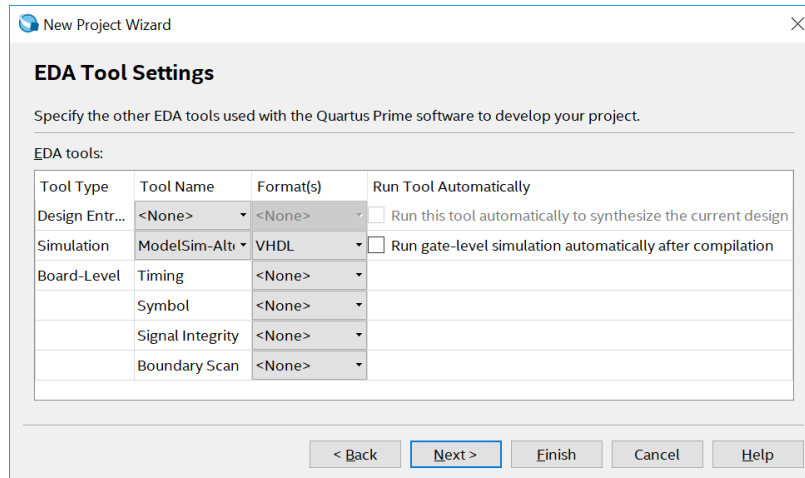

Figure 3: Assigning a tool program
- The EDA Tool Setting window is used to assign external tools. As shown in Figure 3, for simulation the following choice is shown. Click the 'Next' button.